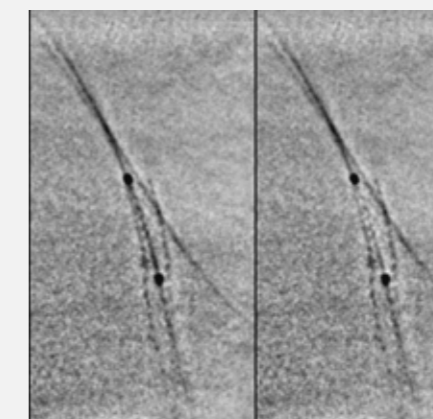

Fig. 6 StentViz
- A StentViz acquisition was performed to assess the right position of the balloon (Fig. 6).